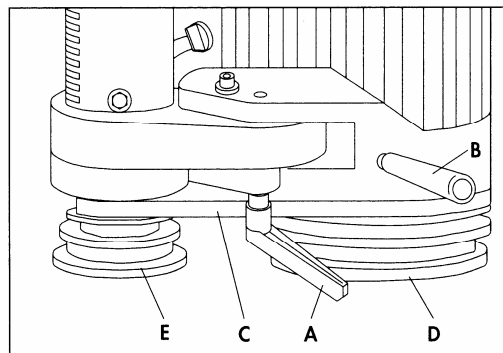

Fig. 3.8
2. Loosen lock lever (A) Fig.3.8, then move tension lever (B), to the left to loosen belt tension.